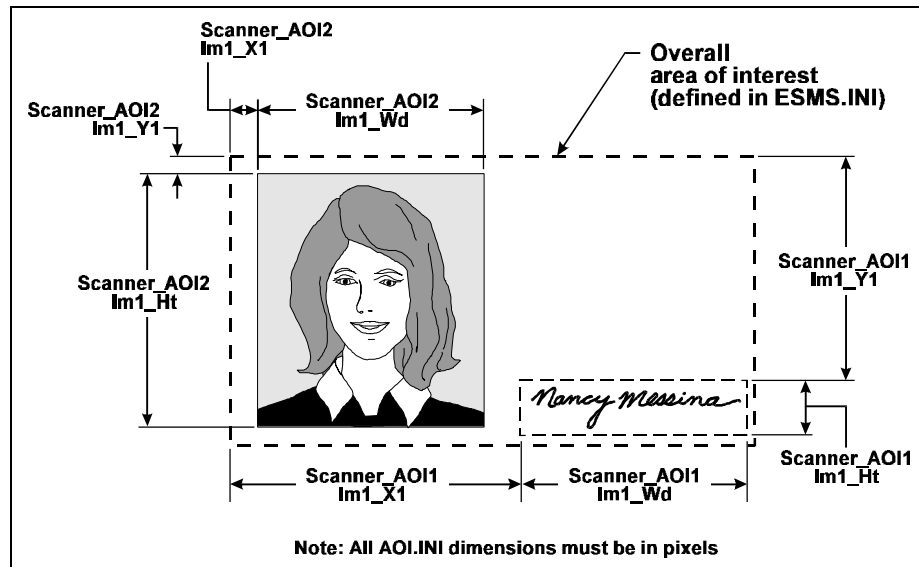

Figure 2-52. Individual Area of Interest Variables in AOI.INI
- x, y Location and size of the individual area of interest, as shown in Figure 2-52. These dimensions are relative to the overall area of interest specified in ESMS.INI, and are measured in pixels.